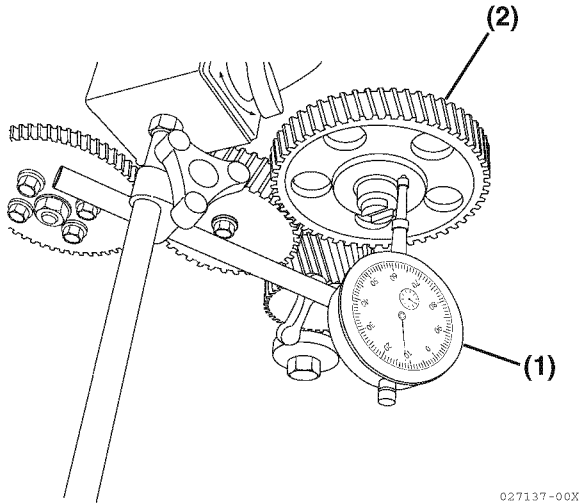

Figure 6-45
- **Method A:** Install a dial indicator (**Figure 6-45, (1)**) on the cylinder block. Move the camshaft and gear (**Figure 6-45, (2)**) in and out to measure the end play. Record the measurement. See *Camshaft* on page 6-7 for the service limit.